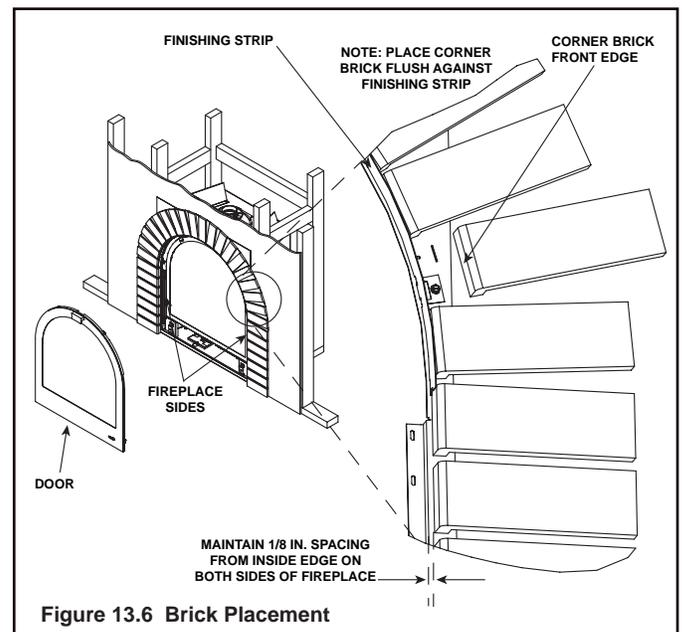

Figure 13.6 Brick Placement
2. Brick Placement: Place corner brick front edge flush against finishing strip. On both sides of fireplace maintain a 1/8 in. space from inside edge to corner brick edge (see Figure 13.6).